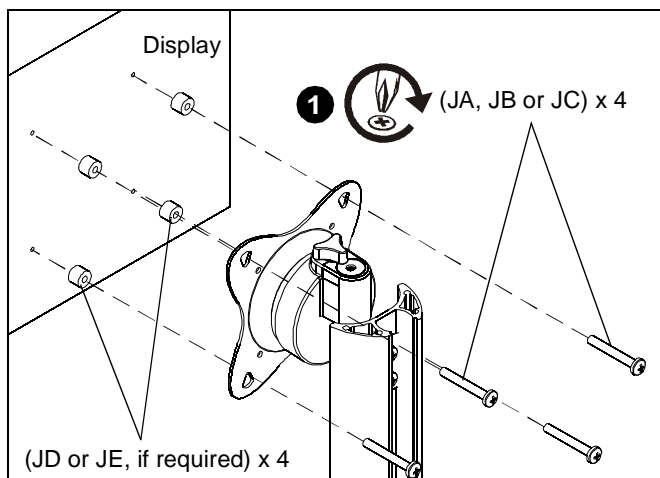

Figure 5
1. Select correct screws, spacers (if necessary) from the hardware bag (J) and attach STS1 to back of display. (See Figure 5)